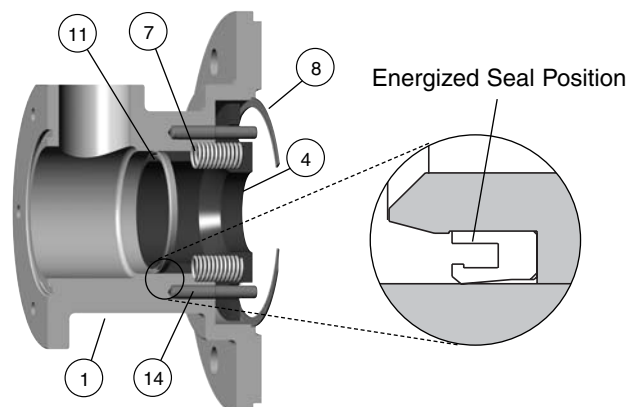

Figure 1.
Please refer to Figure 1. Be aware that there is spring force present during this operation. Place the body (1) and piston (4) assembly into a press with the flat face of the piston facing up. Place a block of wood on the flat face of the piston to protect it. Push the piston into the body and remove the retaining ring (8). Release the press, spring force will push the piston out of the body most of the way. Once the spring force is relaxed, separate the piston from the body.
Install a new energized seal (11) onto the piston (4). Install the energized seal with the cup or U shaped portion facing the end of the piston, opposite the seal ring's sealing surface. See Figure 1.